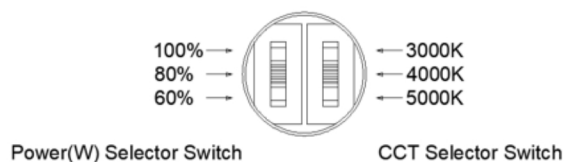

Fig. 18
2. Adjust the CCT and Power (W) by sliding the respective switch to the desired value as shown in Fig. 18.